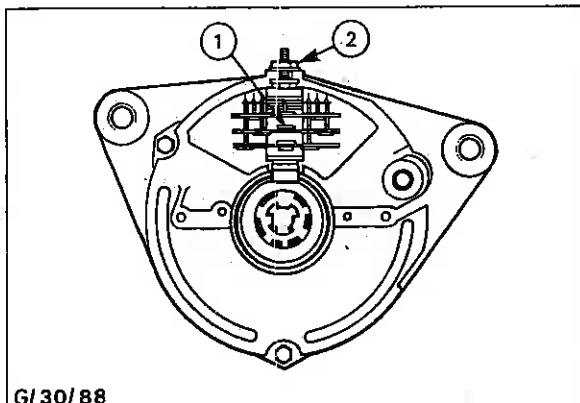

Fig. 45 - Replacing the Rectifier Pack
1. Clamp the alternator securely, place the rectifier pack (1) in position and secure with the nut (2) - see Fig. 45.